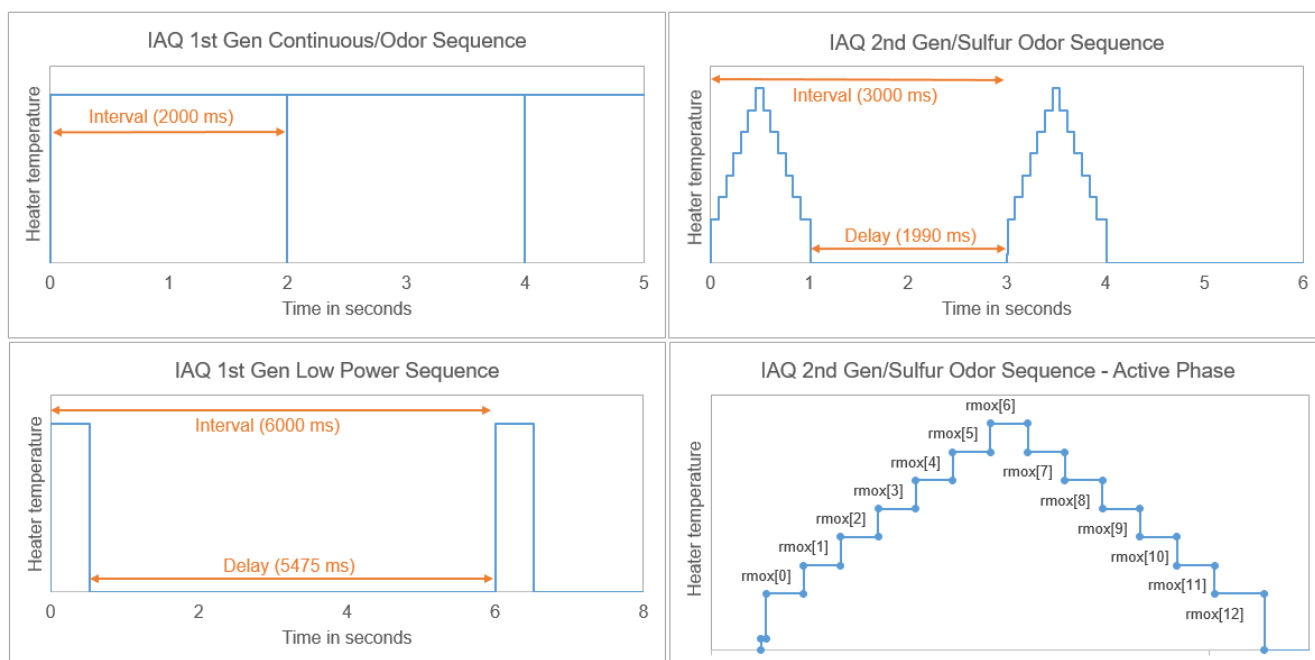

Figure 3. Measurement Sequences
- Timer-based interrupts – Some target hardware may use timer-based interrupts. For this usage, the main measurement loop must be called periodically with the corresponding measurement intervals. The timing deviation should be below 5%. This procedure can replace the delays, which are used to ensure measurement timing, and the polling loops. An ADC read-out at the end of the active measurement phase when results are written to the registers will lead to an error. When replacing the polling loops make sure that measurement is completed. The measurement sequences for each example are shown in Figure 3.